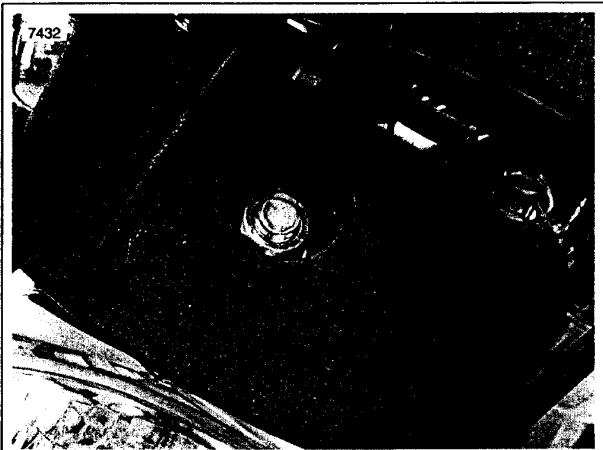

Figure 1-69. Adjusting Nut (Typical)
2. See Figure 1-69. Loosen adjusting nut on top of headlamp.